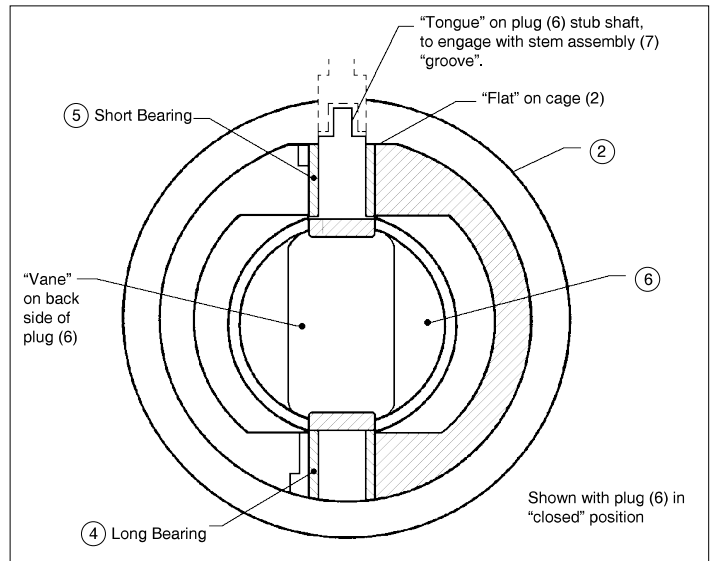

FIGURE 5
4. Slip bearings (4)(5) onto the plug (6) stub shafts.
NOTE: Bearings (4) (5) are not the same length. The shorter bearing (5) fits the plug (6) stub shaft that has the tongue end. See Figure 5.